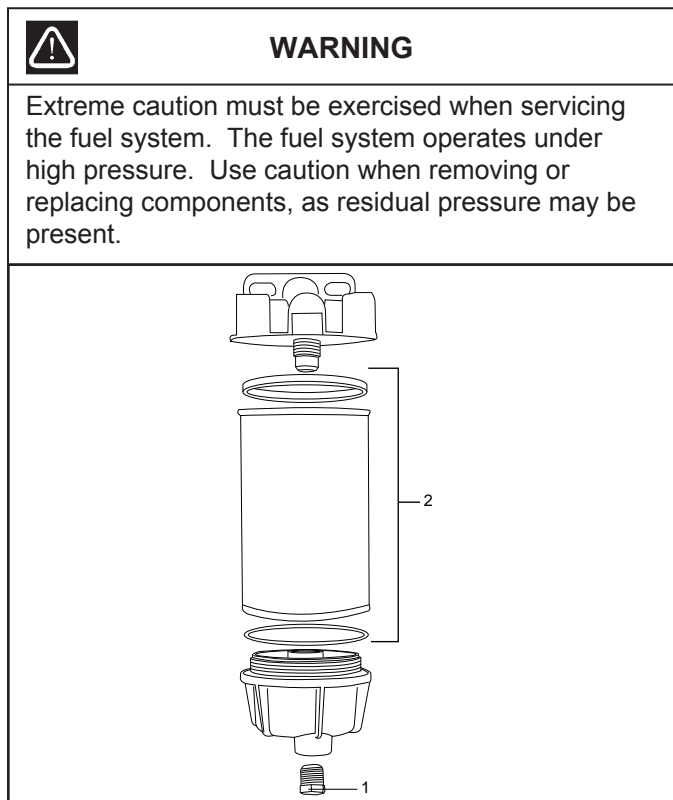

Figure 11-16 Primary Fuel Filter
2. Close the fuel tank valve (if applicable), then loosen/remove the drain plug (1) at the bottom of the bowl. Figure 11-16 item 1.
2. Close the valve at the fuel tank (if applicable) and then remove the drain plug (1) to empty the filter of fuel.
3. Spin the Element and Bowl off together (use a strap wrench on the element), then remove the bowl from the element (2). Figure 11-16 item 2.